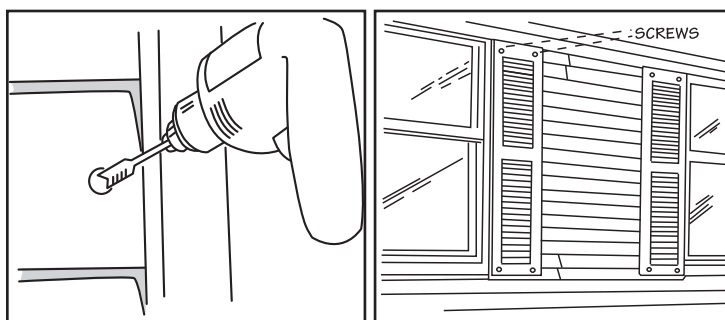

Figure 74.
- Using the hole marks as a guide, drill expansion holes through the siding where attachment screws will be located, a minimum 1/4" (6.4mm) larger than the diameter of the screw (Fig. 74).